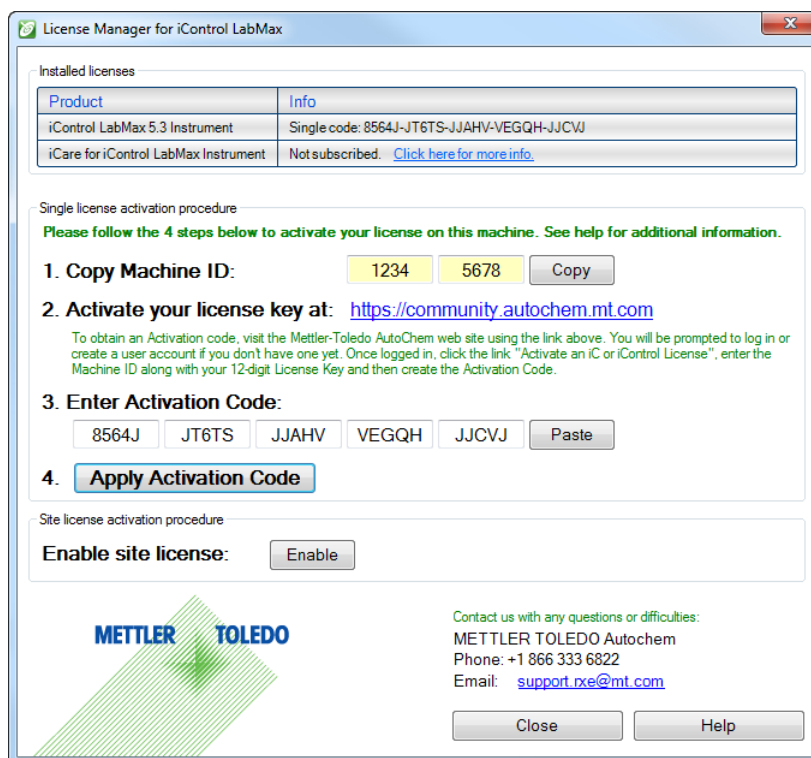

Figure 2 License Manager dialog box
2. In the License Manager dialog box (**Figure 2**), click **Copy** after step 1 to copy the machine ID to your clipboard.